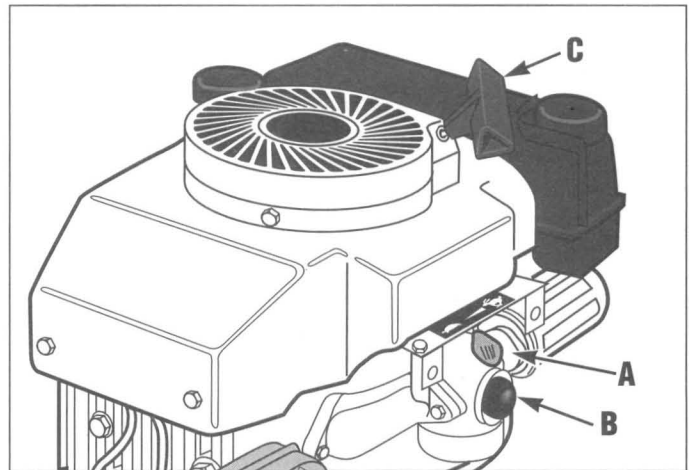

Figure 8: Starting the engine.
B. Move the Engine Control Lever (**A**, Figure 8) all the way to the **right** (toward rabbit position) until it stops.
C. When starting a cold engine, **firmly** push primer (**B**, Figure 8) five (5) times before trying to start the engine. (This step is not required when starting an engine which has already run for a few minutes.)